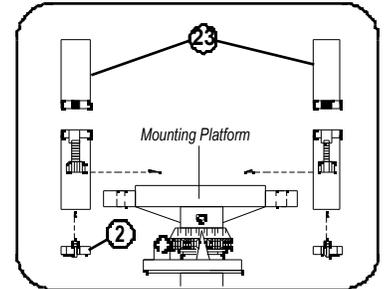
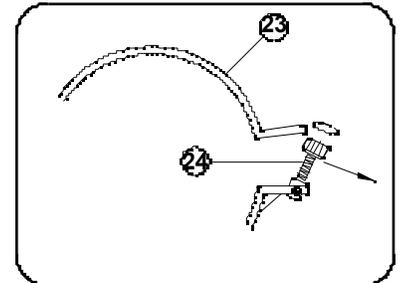

Figure 2.
Figure 3
Locate *Telescope Cradles* (23). Remove *Mounting Screws* (2) and position *Cradles* under mounting platform as shown (fig 2). Now open *Cradle* by unscrewing *Cradle Lock Screws* (22.) (fig. 3.) Position *Main Telescope Tube* (23) into *Cradles*. Tightly secure *Main Telescope Tube* in place using *Cradle Lock Screws*.